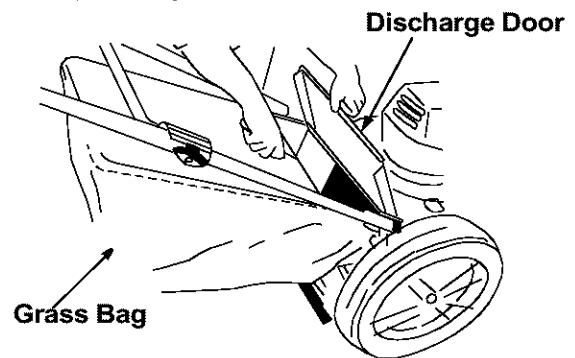

Figure 9
- Place the hooks, found on both sides of the grass catcher frame, over the chute door pivot rod at the rear of the mower. See Figure 9. Release the rear discharge door.
- **To remove the grass catcher**, lift the rear discharge door on the mower. Lift the grass catcher up and off the pivot rod. Reinstall the mulching baffle and release the rear discharge door. See Figure 9.